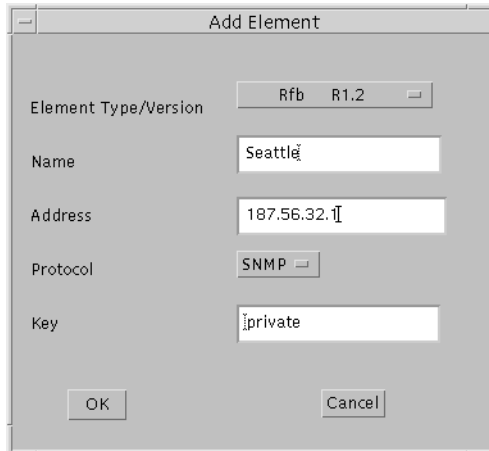

Figure 5-4: Setting up the Network Elements
3. The Add Element dialog box appears with the following active fields (see Figure 5-4).